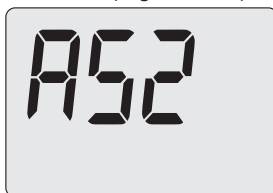

Figure 5.41
- Press 13 and hold until the LCD display shows the code **A52**, indicating entry into “parameter A52” (Figure 5.41).
- Press 13 or 14 (Figure 5.38) to confirm the value entered and return to the list of parameters (Figure 5.41).